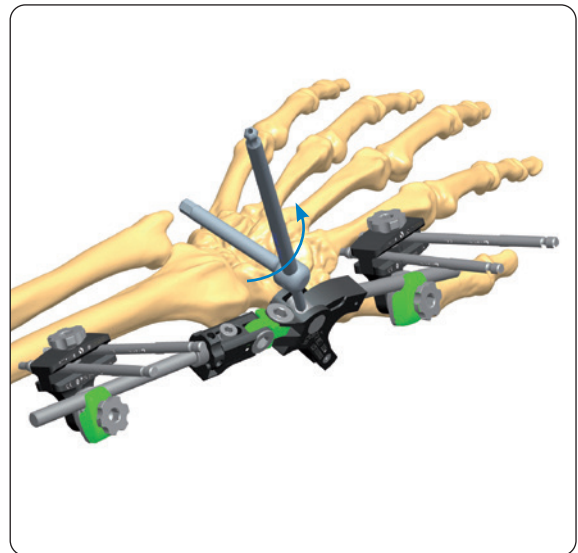

Fig. 24
- In order to achieve this, first loosen the Arch Nut (Fig. 24)